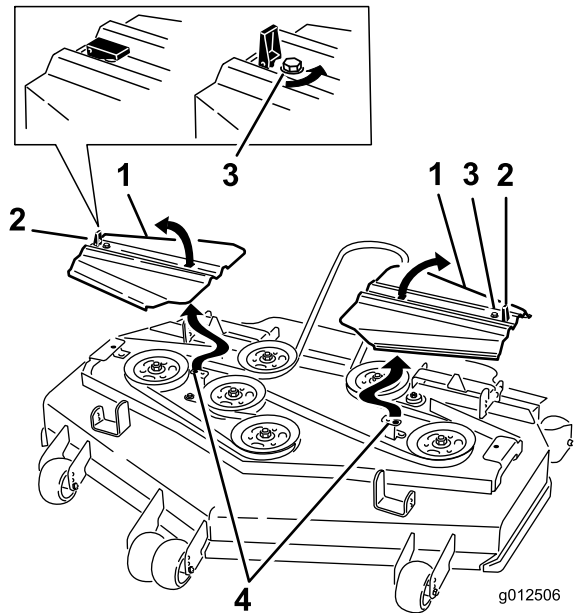

Figure 62
- Install the belt covers with the tabs in the slots. Install the screws and close the latches (Figure 62).